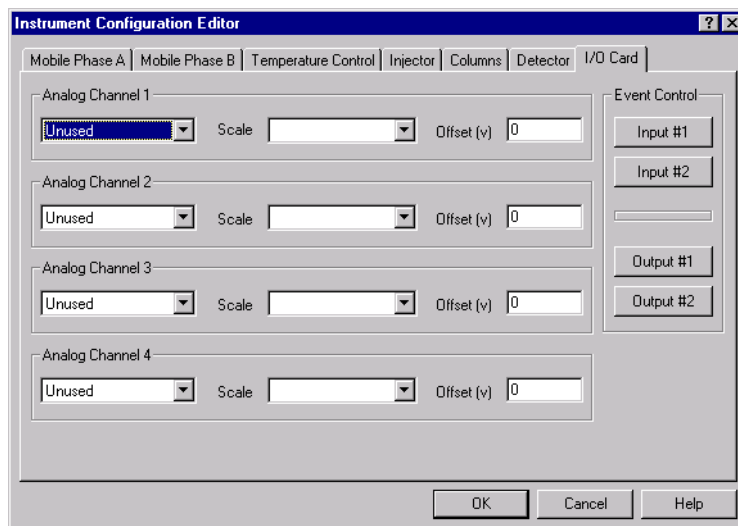

Figure 3-8 I/O Card Page
1. Click the I/O Card tab in the Instrument Configuration Editor (Figure 3-8) to open the I/O Card page.